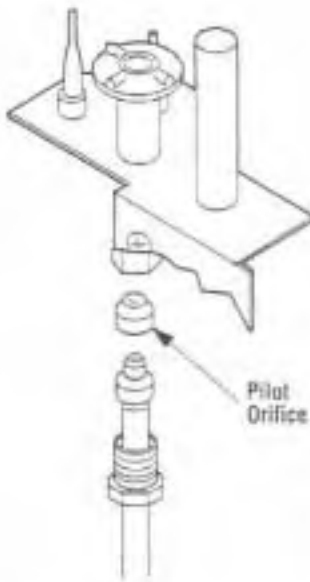

Figure 54
**Step 7. Millivolt Appliances** - Replace the pilot orifice with the one provided with the kit (Figure 54).